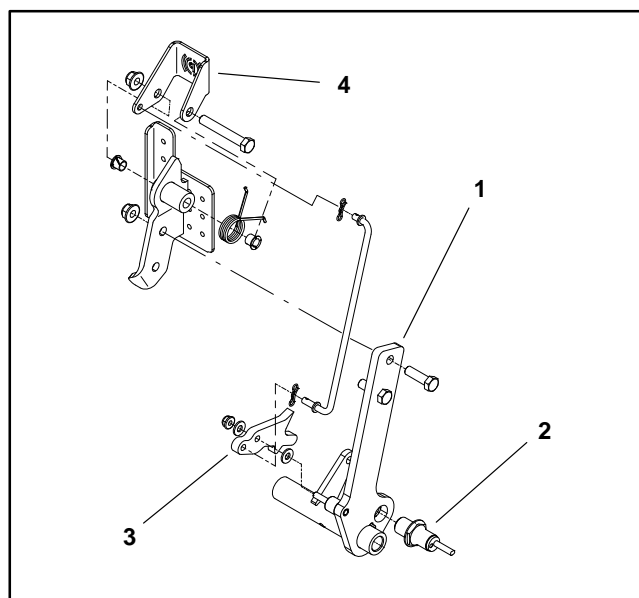

Figure 51
3. Locate parking brake sensor (Fig. 51). Make sure that parking brake is not applied.